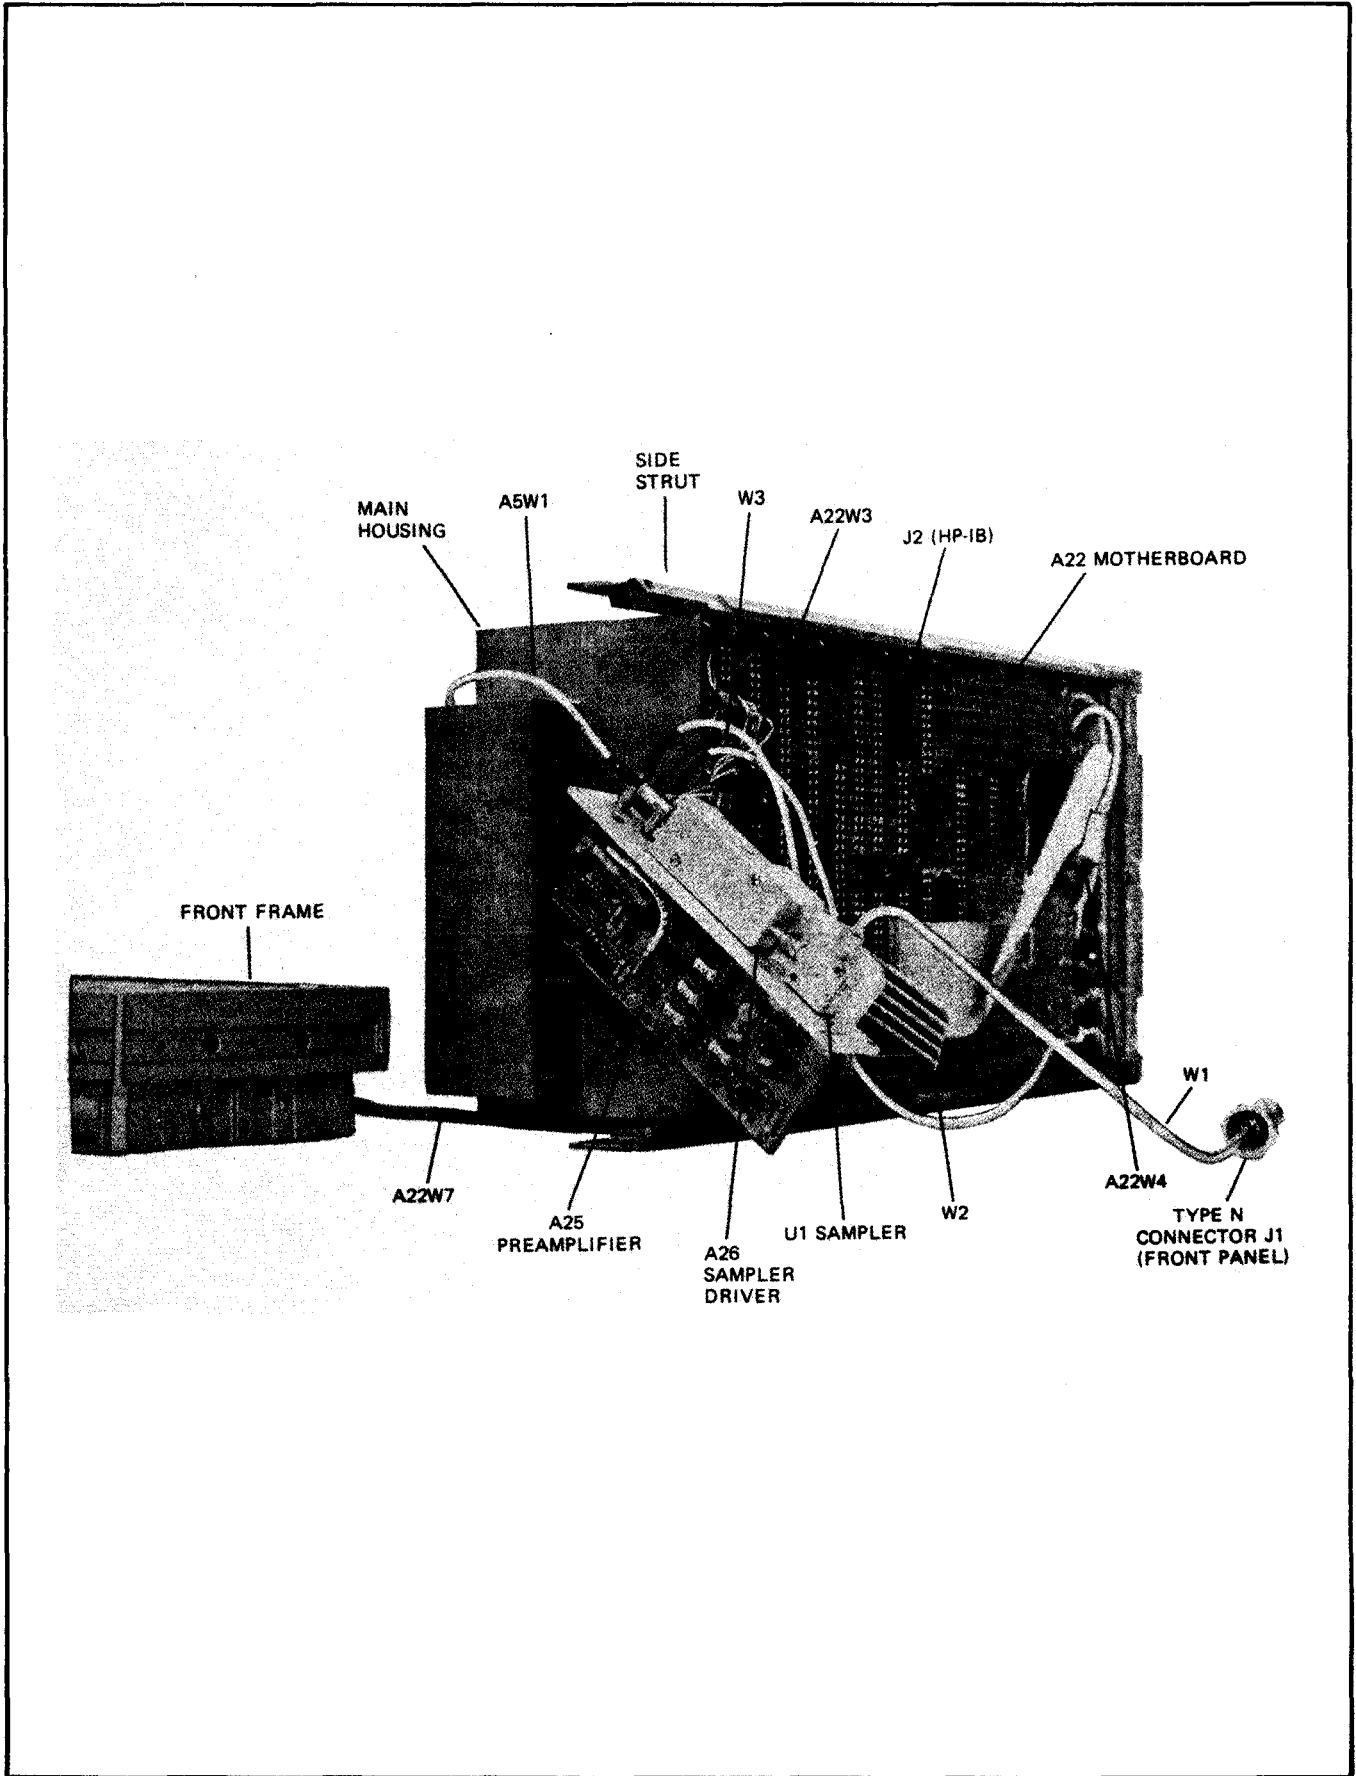

Figure 8-2. Front Frame, A25, A26, and U1 Removal
- f. The front panel frame (containing assemblies A1 and A2) can now be moved freely within limits of the power cable, as shown in **Figure 8-2**.